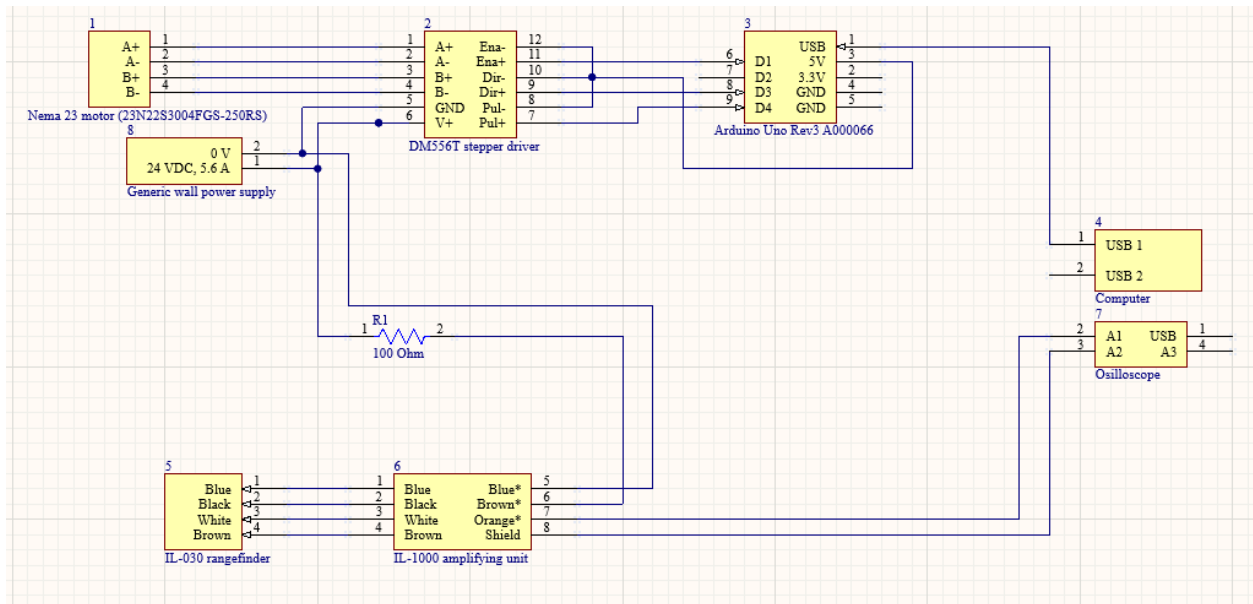

Fig. 3: Wiring diagram
1.08: Connect wiring for IL-1000 in accordance with test stand wiring diagram as shown in Fig. 3.	OK? _____
1.09: Secure PPT wiring to the thruster shelf via waterfall clamps and masking tape in accordance with the test stand wiring diagram as shown in Fig. 3.	OK? _____
6.02: Disconnect wires from test stand assembly as shown in Fig. 3.	OK? _____